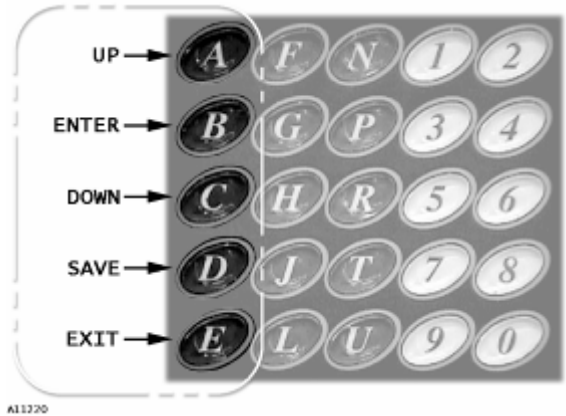

Figure 2. Keypad Buttons in Service Mode
*If the program is not requiring you to input a letter or range value, then buttons **A**, **B**, **C** and **E** are used to move between the various modes, menus and sub-menus; while the **D** button is used to confirm and save a setting. See **Figure 2**.*